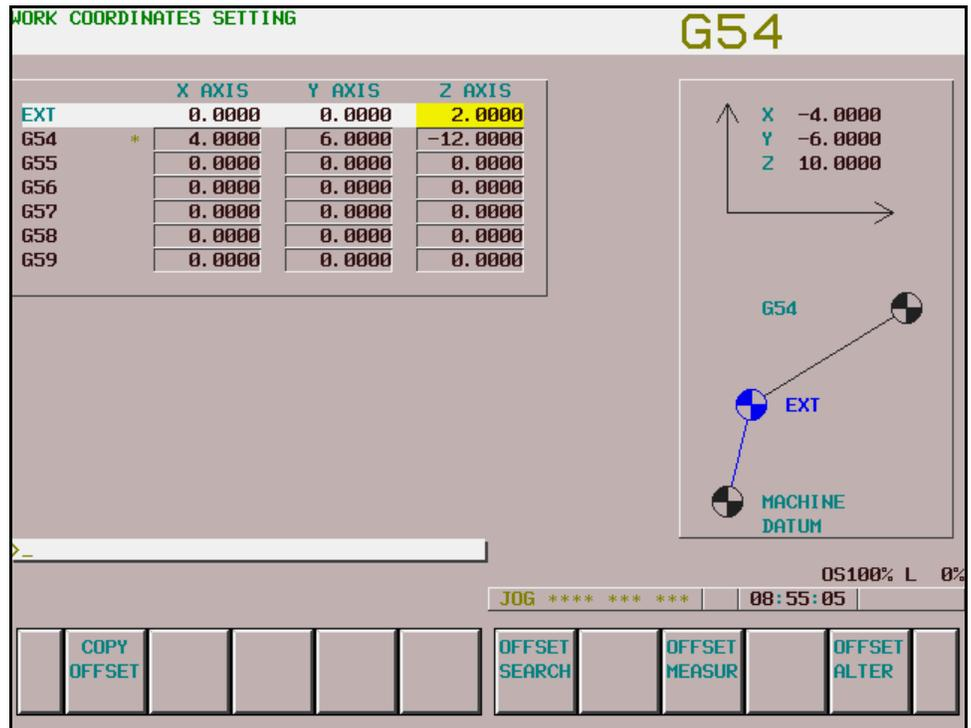

Figure 6-7: Work Coordinates Setting Screen
4. Type 5.0 inch then press the input key - the following screen is displayed (Figure 6-7):